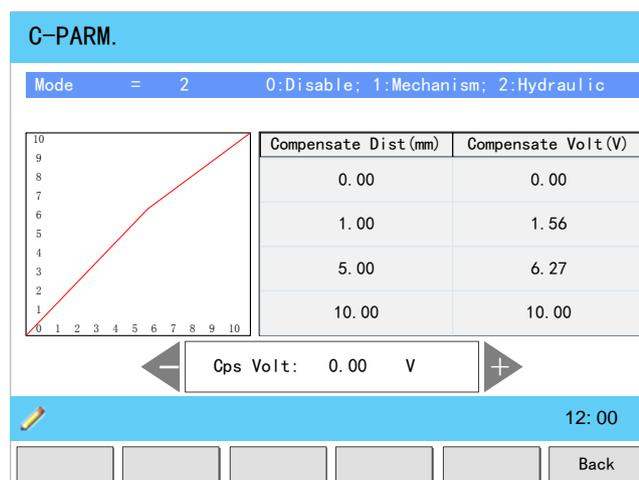

Figure 3-15 Set the mode to hydraulic
- Step 2 Set the parameter **Mode** to **2: Hydraulic**, as shown in Figure 3-15.